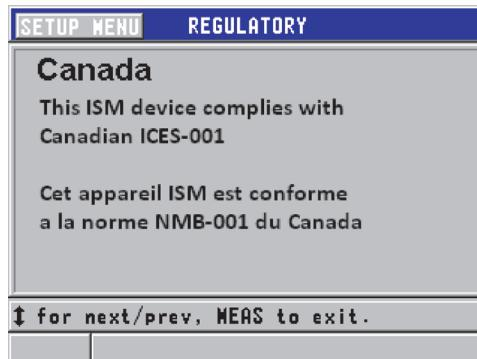

Figure i-1 The REGULATORY screen
2. In the **SP MENU**, select **REGULATORY** to display the **REGULATORY** screen (see Figure i-1 on page 16).